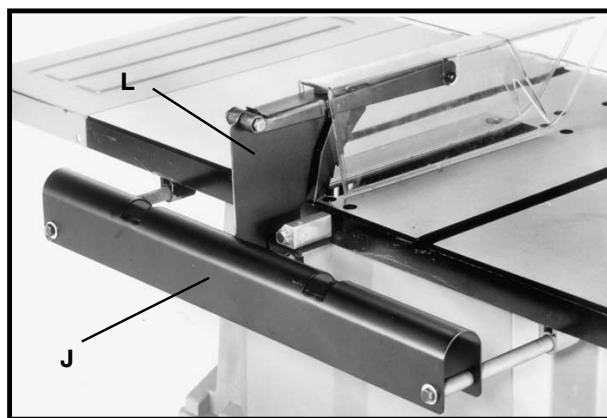

Fig. 33
5. Push entire outfeed support assembly (J) Fig. 33, in until it contacts splitter/guard assembly (L) as shown. Then tighten all outfeed support mounting hardware.